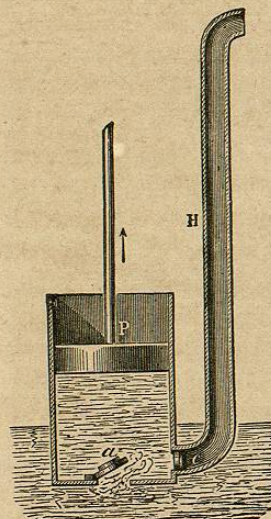

Fig. 99.
**136.** In the FORCING PUMP, the sucking pipe may be dispensed with, and the barrel plunged directly into the reservoir, as shown in Figs. 99 and 100, or a sucking pipe may be employed, as will be explained hereafter. We
When the piston is raised to its highest position, as shown in Fig. 99, the pressure of the atmosphere on the water in the reservoir forces open the sleeping valve, and the barrel is filled with water up to the bottom of the piston, when the sleeping valve closes by its own weight. On depressing the piston, the valve *c*, is forced open, and a portion of the water in the barrel is forced into the delivery pipe. When